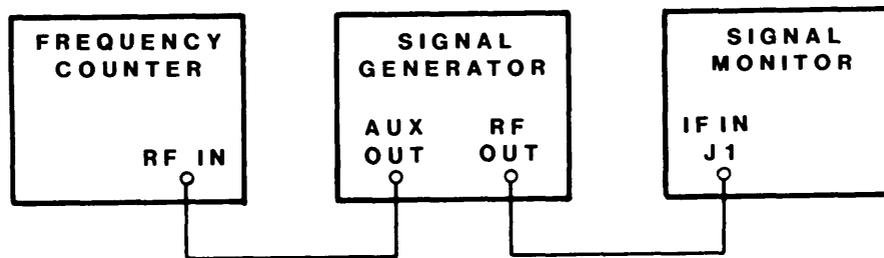

Figure 4-6. Test Setup, 21.4 MHz IF Amplifier Touch-Up Alignment
- (1) Connect the equipment as shown in Figure 4-6.
- (2) Set the signal monitor front panel controls as follows:
- (3) After the marker is centered on the CRT, turn it off.
- (4) Set the signal generator to 21.4 MHz at a level to give a pip at about 3/4 scale.
- (5) Tune the signal generator through the range of 20.4 MHz to 22.4 MHz observing for symmetry, and the minimum and maximum pip heights.